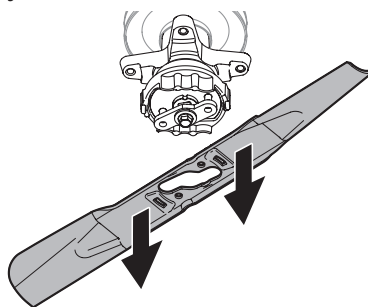

Figure 45
5. When the hole in the center of the blade aligns with the tractor blade retainer, carefully lower the blade. See Figure 45.